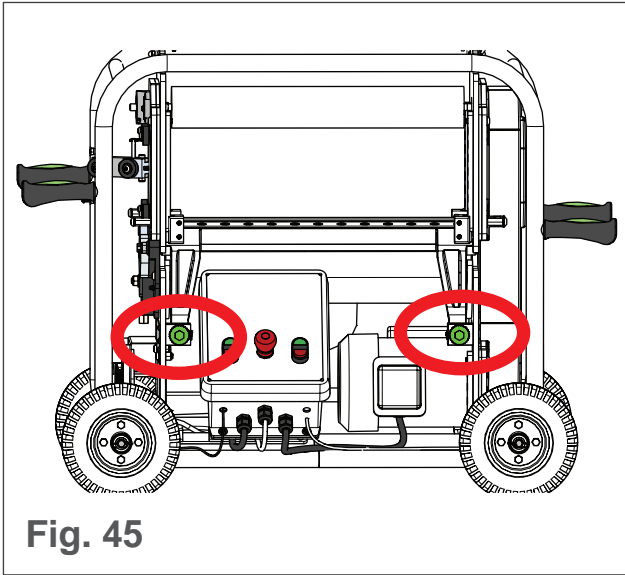

Fig. 45
- Adjustment clickers are located on the control panel side of the T2 (see Fig. 45).